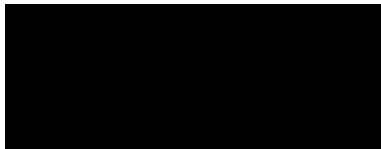

Figure 29 Practice Alphanumeric Commands in Normal Resolution
4. To see the results, enter a sequence terminator. For example, enable the Free Format Form Feed command (,) and print the file. The result should look like the example shown in Figure 29.